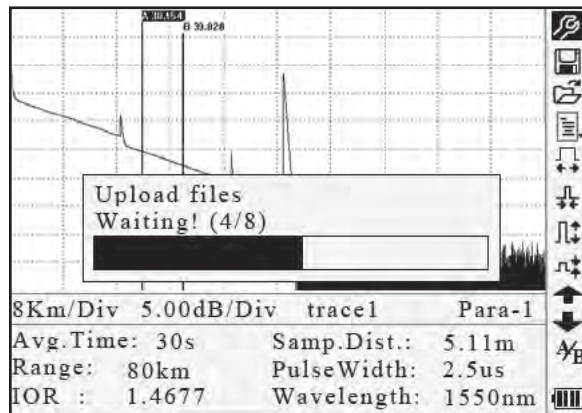

Figure 4-8. Upload Saved Traces
4. Power on the 920XC, and upload data with the software (Figure 4-8).